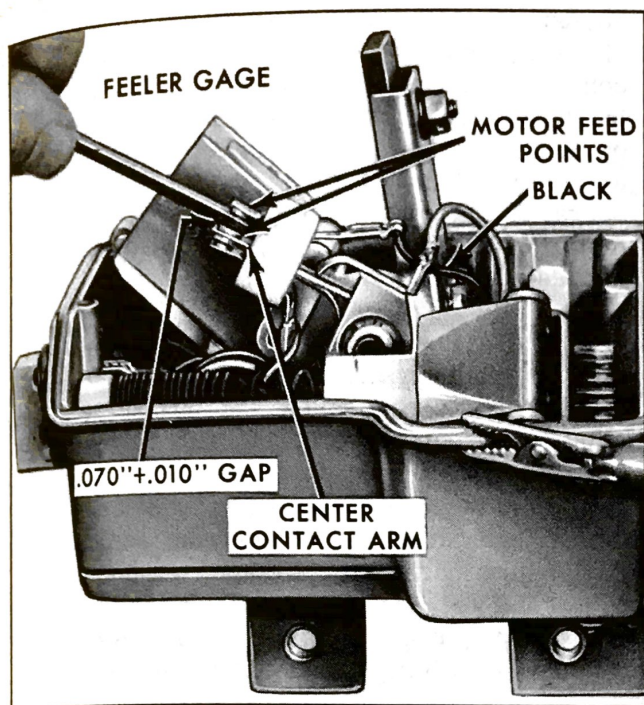

Fig. 15-17 Motor Feed Points Adjustment (Full Gap)
5. Measure gap between either motor feed point and center contact arm. This gap should be $.070'' \pm .010''$, Fig. 15-17. Bend either motor feed point to adjust and recheck gap.